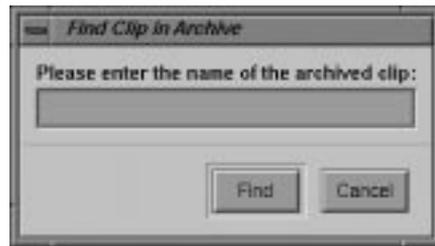

Figure G-3 Find Clip in Archive Window
1. Choose **Archive > Find** from the menu bar in *mcpanel* or from *mcclips*. The **Find Clip in Archive** window, as shown in Figure G-3, appears.